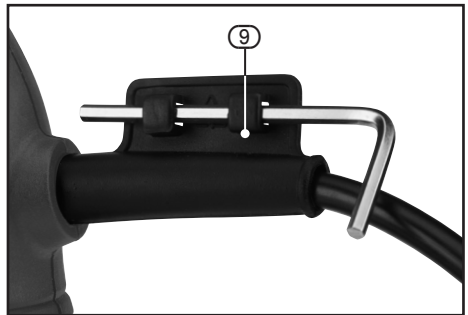

FIG.6
- Using the supplied hex. key, loosen the bevel cutting adjustment bolt (8) located on the underside of the base plate (6).
- Slide the base plate (6) backwards and adjust to the desired angle.
**Note:** Convenient hex. key storage (9) is incorporated into the base of the power supply cable (fig.6).